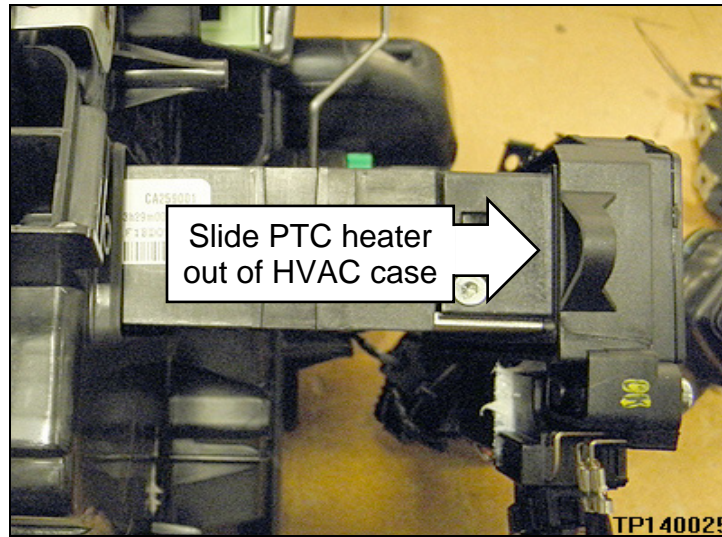

Figure 32
8. Slide the PTC heater gently out of the HVAC case (Figure 32).